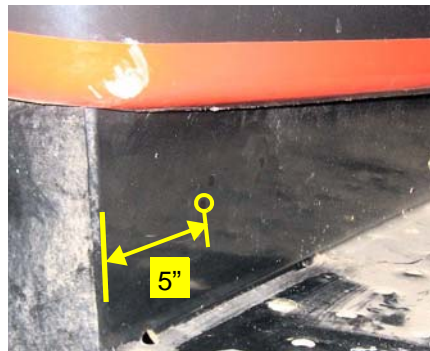
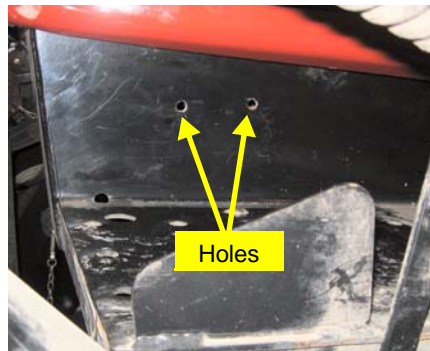

Figure 2a: Mounting Location
Figure 2b: Holes Drilled
- a. The Automated Steering Block will be mounted on the left front frame under the cab. Using the bracket (C) as a template, drill two **7/16"** holes in the support as indicated in Figure 2b. (Figure 2a, 2b)